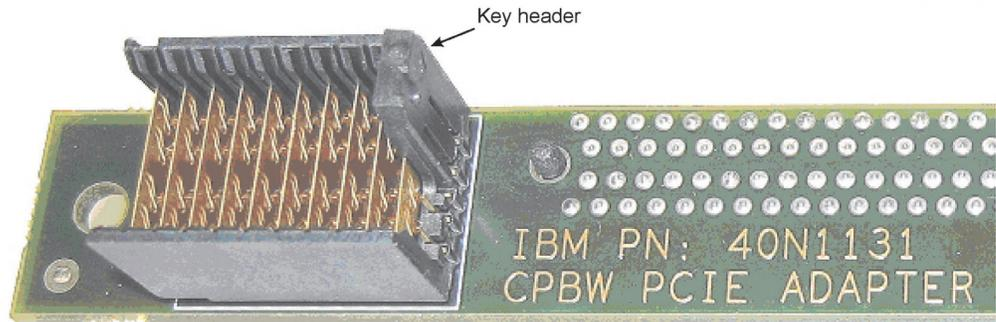

Figure 12. PCI Express adapter card with installed key header
7. Hold the PCI Express adapter card so that you look top down onto the PCI-Express connector J1. Place the second key header so that it covers the two upper rightmost contacts, see Figure 12.